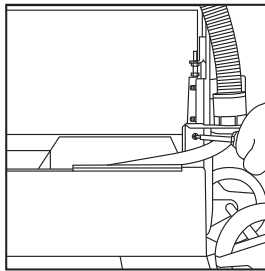

FIG 4
- First place the container (a) for the cooling water pump (13) in the intended position on the trough (3).
- Place the cooling water pump (13) - with the suction cups pointing down - into the container (a).
- Then fasten the hose to the intended positions as shown in Fig. 4 and 5.